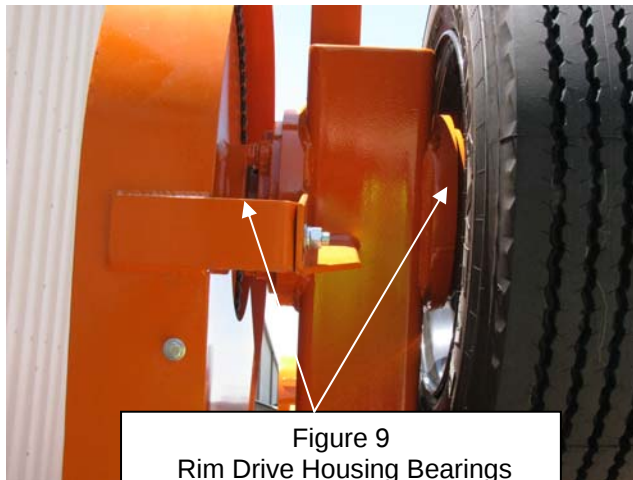

Figure 9
F. Rim Drive Housing Bearings Fig. 9